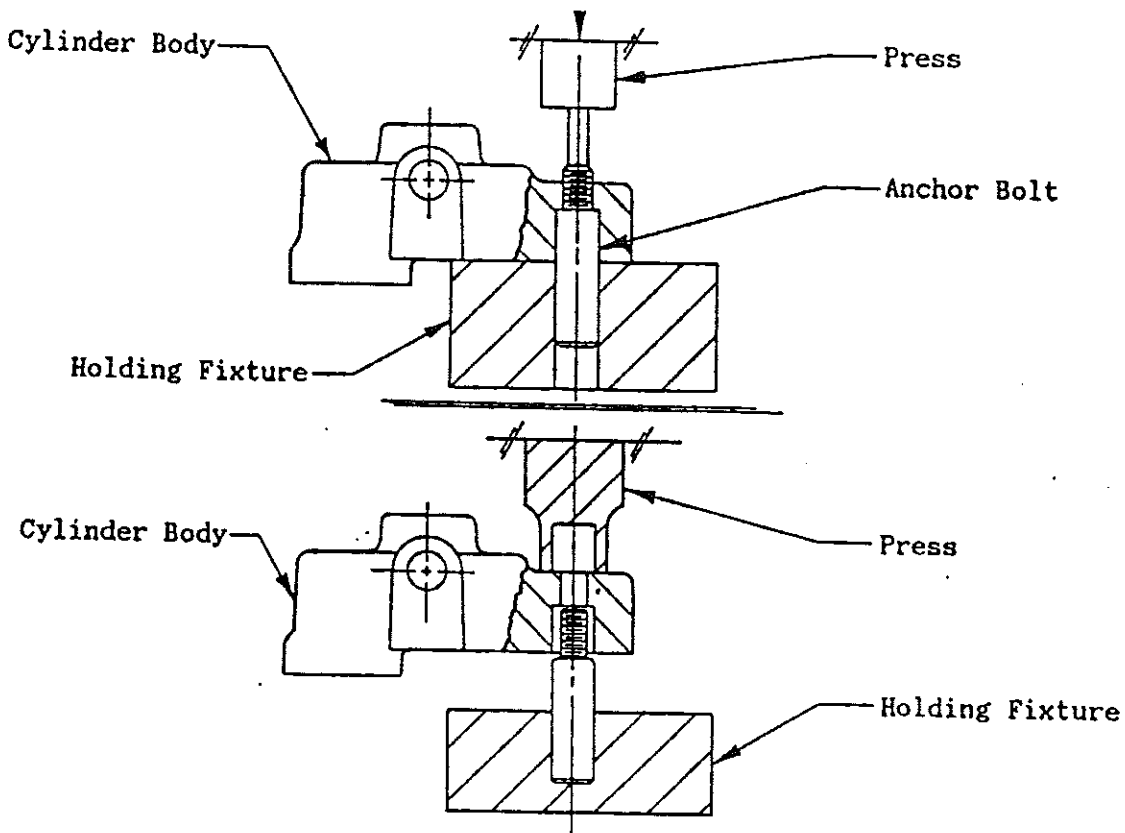

Figure 3 Anchor Bolt Removal
2.2.4.1 If removed, press anchor bolts (ref. Figure 3) into brake and install washers and nuts. Torque nuts to 85-90 in-lbs.